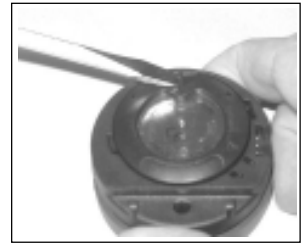

Fig. 58 - Hatch Ring Removal
- While applying steady inward pressure on the center of the Battery Hatch, rotate the Hatch Retaining Ring 10 degrees clockwise by pressing against the upper tab of the Retaining Ring with a small blade screwdriver (Fig. 58).